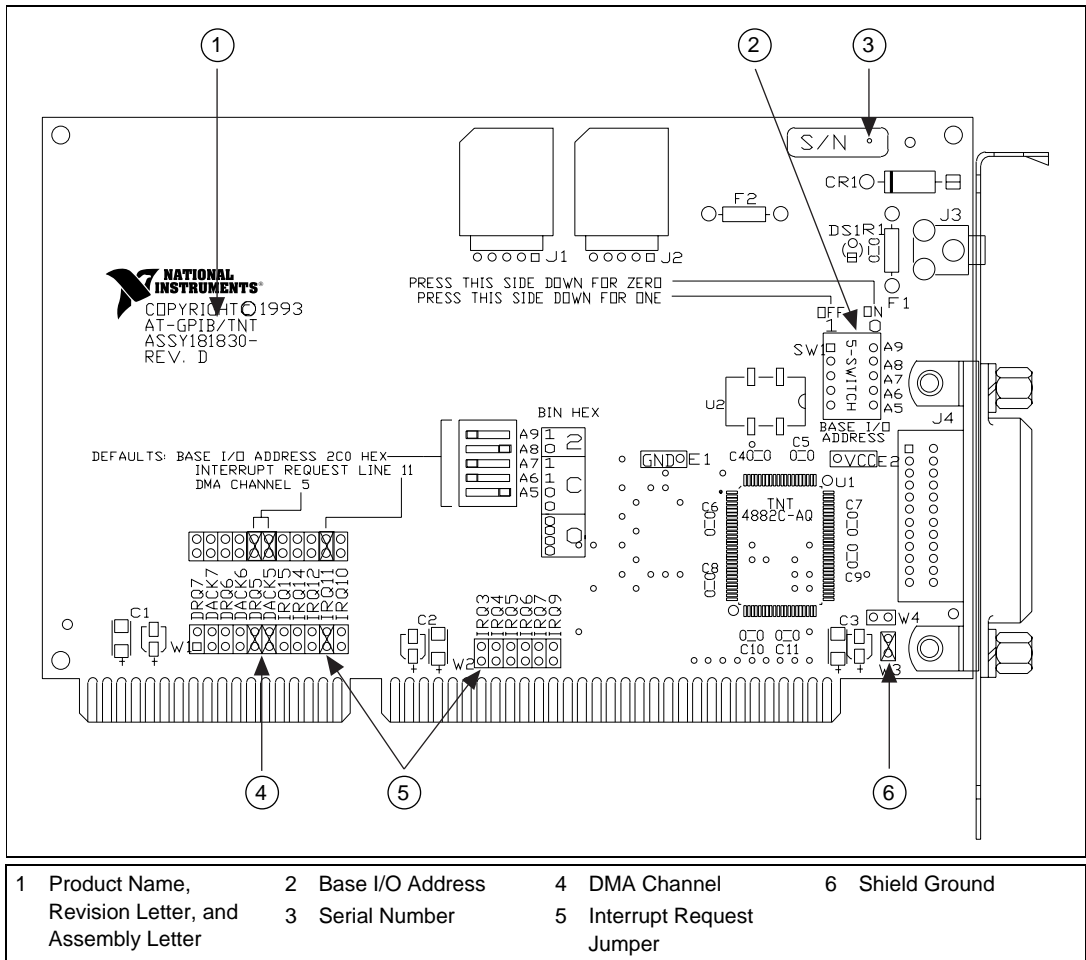

Figure 2-5. AT-GPIB/TNT Parts Locator Diagram
If the resources do not match the default settings, you must reconfigure the jumpers and switches, as described in the next few sections, to match the resources assigned to the AT-GPIB/TNT by Windows. Figure 2-5 shows the location of the configuration jumpers and switches on the AT-GPIB/TNT.
1. Locate the base I/O address switch at SW1 on your AT-GPIB/TNT board. Refer to the parts locator diagram, Figure 2-5.
1. Find the jumpers that set the interrupt request line. The jumpers are located on the lower edge of your AT-GPIB/TNT. Refer to the parts locator diagram, Figure 2-5.
1. Locate the jumpers that select the DMA channel. Refer to the parts locator diagram, Figure 2-5.
1. Refer to Figure 2-5 to locate the shield ground jumper W3 on the AT-GPIB/TNT.